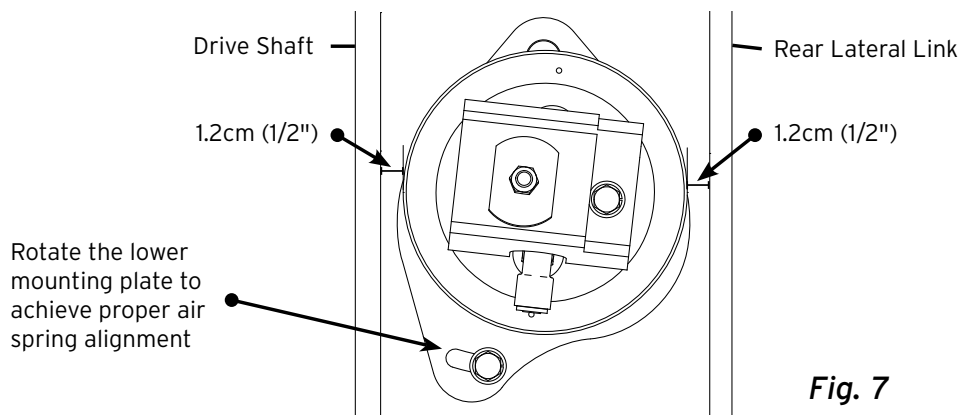

Fig. 7
8. Deflate the assembly, making adjustments as needed (Fig. 7). Torque the upper and lower air spring-to-chassis/control arm assembly bolts to 27Nm (20 lb.-ft.).
9. Place the new shock (A) into the shock tower and attach the upper and lower mounting bolts. Torque the upper bolts to 52Nm (38 lb.-ft.).